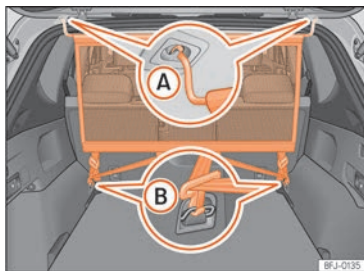

Fig. 168 Net partition fitted.
- Secure the net partition in the left housing of the roof » » Fig. 168 (A). Make sure to move the cross rod down beyond the upper position.
- Hook in the net partition on the rear right-hand side roof housing by pressing on the rod » » Fig. 168 (A).
- Secure two hooks of the partition net to the fastening rings of the boot » » Fig. 168 (B) and tighten the straps firmly.
- Release the net hooks from the fastening rings » » Fig. 168 (B).
- Unhook the net partition on the right-hand side roof support » » Fig. 168 (A) by pressing on the rod.